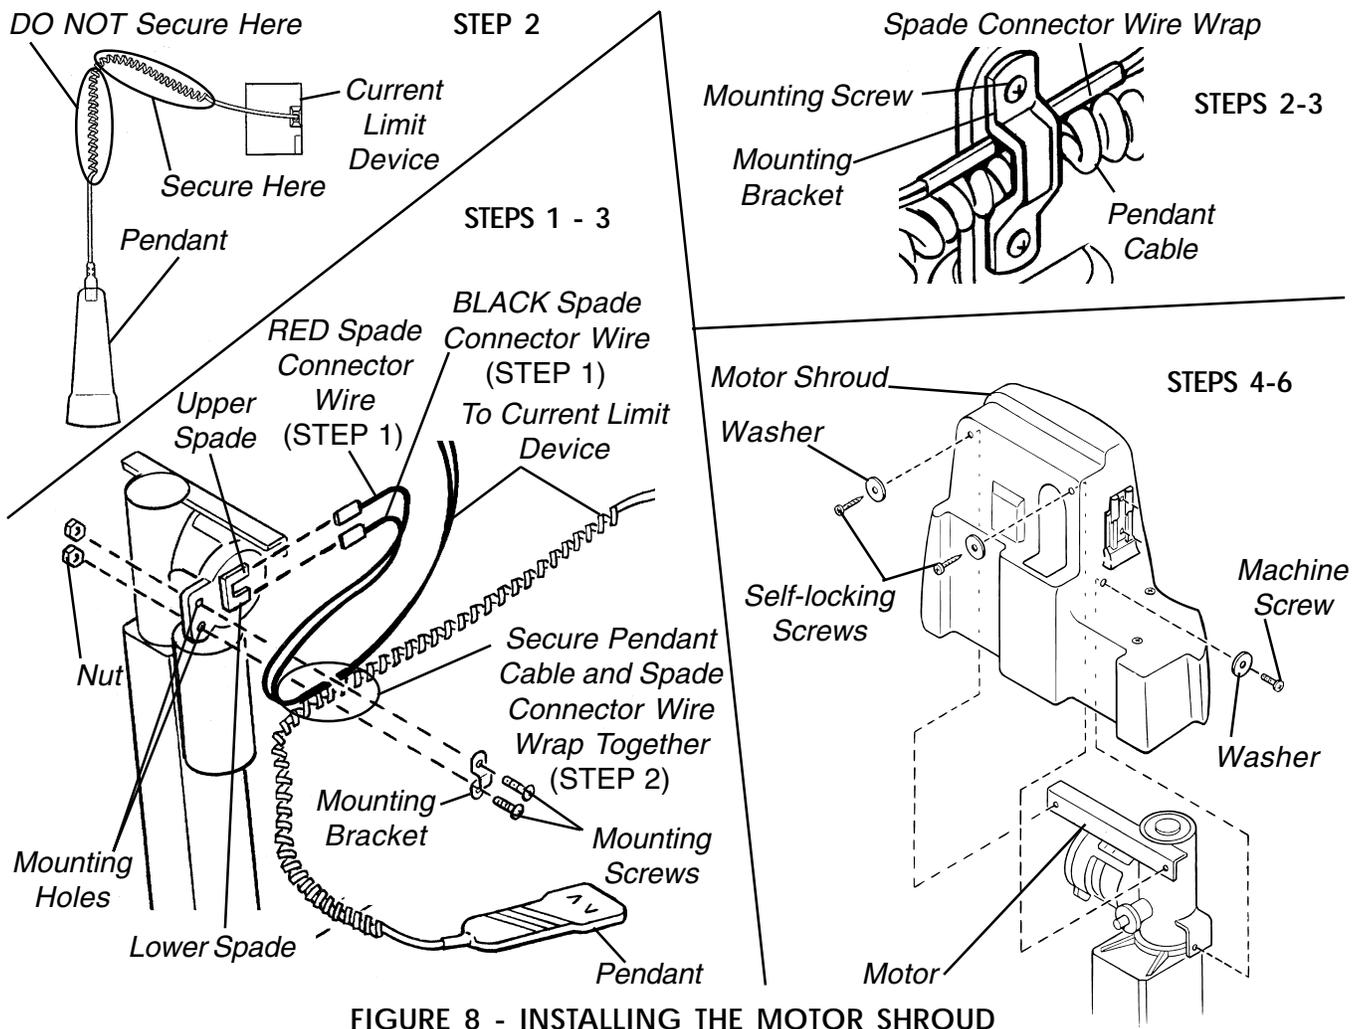

FIGURE 8 - INSTALLING THE MOTOR SHROUD
**Installing the Motor Shroud (FIGURE 8)**
The spade connectors **MUST** be connected to the motor as shown in FIGURE 8 - otherwise, the pendant will operate improperly.
2. Secure the pendant cable and the spade connector wire wrap to the motor with the mounting bracket as shown in FIGURE 8.
3. Align the mounting holes of the mounting bracket and motor and secure the mounting bracket with the two (2) EXISTING mounting screws. Tighten securely.
6. Install the two (2) self-locking screws and two (2) washers in the front mounting holes. Tighten securely.